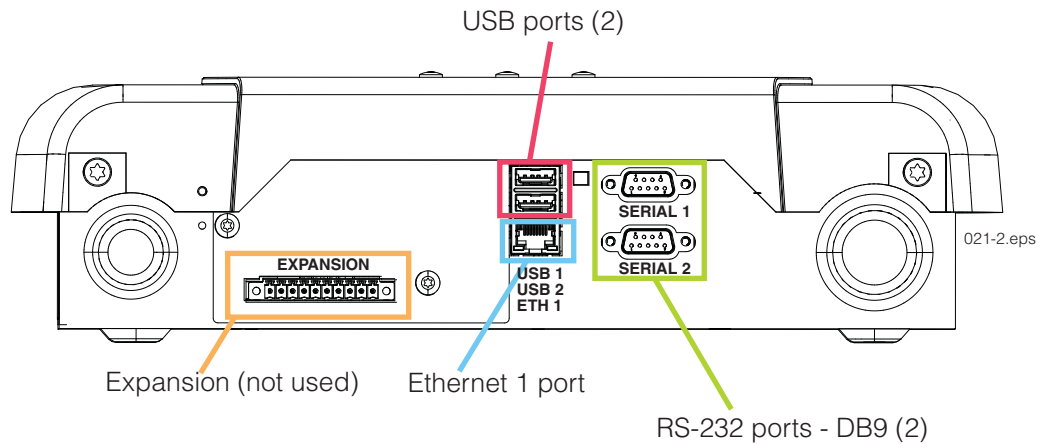

Figure 2. Bottom Panel Communication Connectors
Figure 2 illustrates the communication ports of the DL console. Figure 3 shows component locations and console mounting holes with cover removed.
1. Using an ethernet crossover cable, connect a laptop PC to the ethernet port ETH 1 on the DL (see Figure 2).